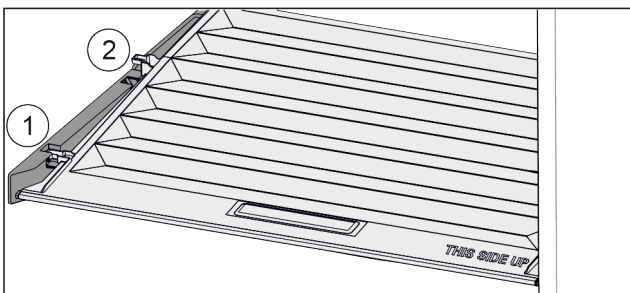

Fig. 117
- ▶ Pull the lid up at the front in the retaining parts to the opening *Fig. 117 (1)*.
- ▶ Lift from the back and pull it up and out *Fig. 117 (2)*.